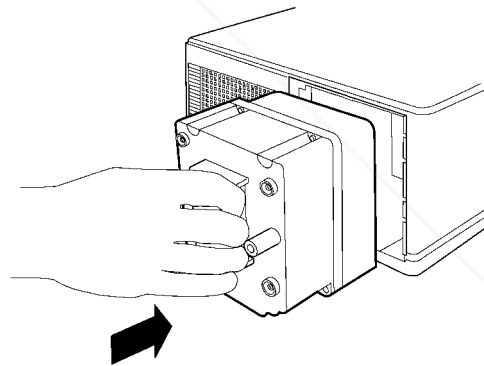

Figure 6-5. Slide Lamp In to Insert
**Insert Lamp Module:** Carefully insert the new lamp module into the opening and slide it all the way back into place (Figure 6-5). Check the lamp module to be sure that it is fully inserted and flush against the back wall.